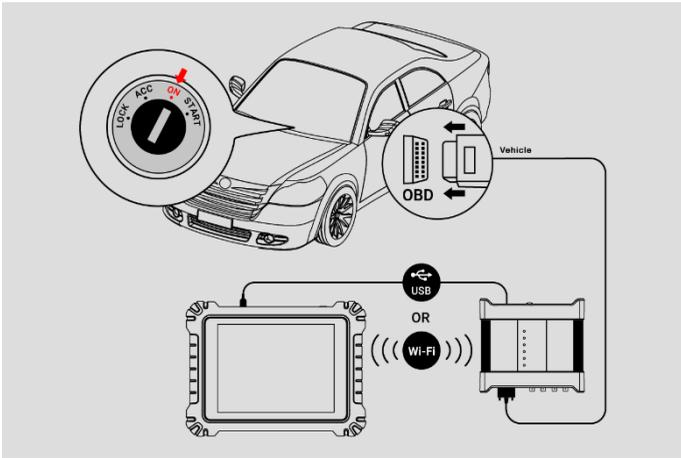

Figure 8-107 Connection Diagram
1. Please refer to Figure 8-107 Connection Diagram to complete the connection. Place the ignition in the key on position.